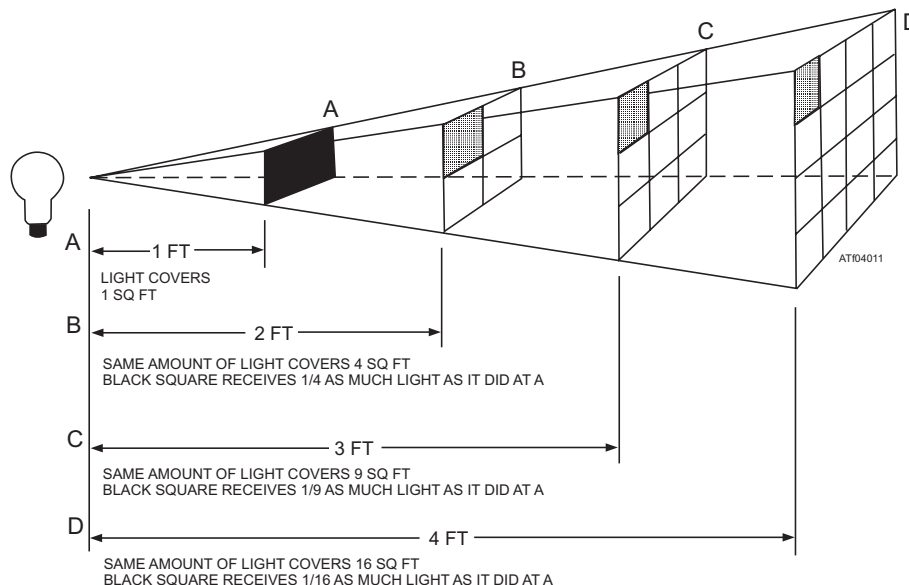

Figure 4-11.—Inverse square law of light.
**Foot-candle.** The intensity of illumination of a surface (illuminance) is directly proportional to the luminous intensity of the light source. Luminous intensity is inversely proportional to the square of the distance between the light source and the surface. Figure 4-11 shows the inverse square law of light.